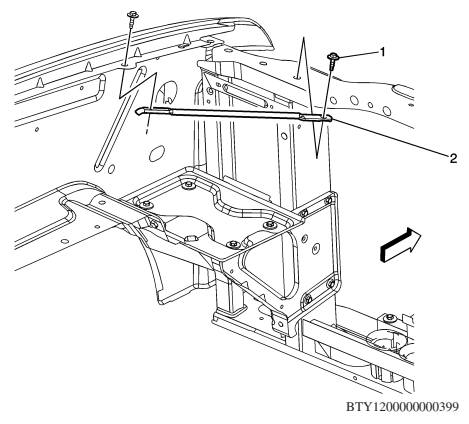

Fig. 5 Front end sheet metal diagonal brace removal
12. Remove front end sheet metal diagonal brace bolts and brace, **Fig. 5**.
3. Install front end sheet metal diagonal brace and bolts, **Fig. 5**. **Torque** bolts to 18 ft. lbs.